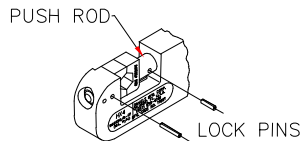

FIG. 4
2. Drive lock pins, supplied with dies, through holes and flush with outside surfaces. Long pin through tool body and short pin through push rod. (See Figure 4)